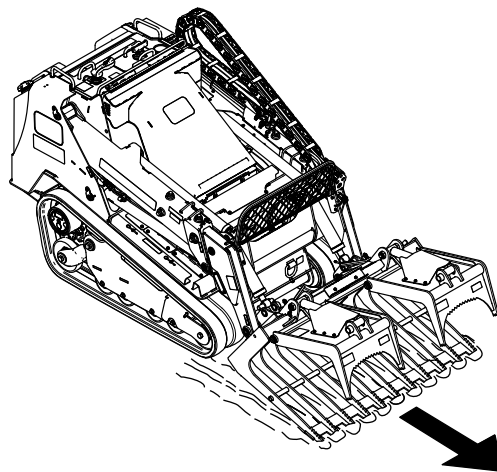

Figure 5
1. To dig or rake using the lower jaw, open the jaws and lower the lower jaw teeth into the ground (Figure 5).